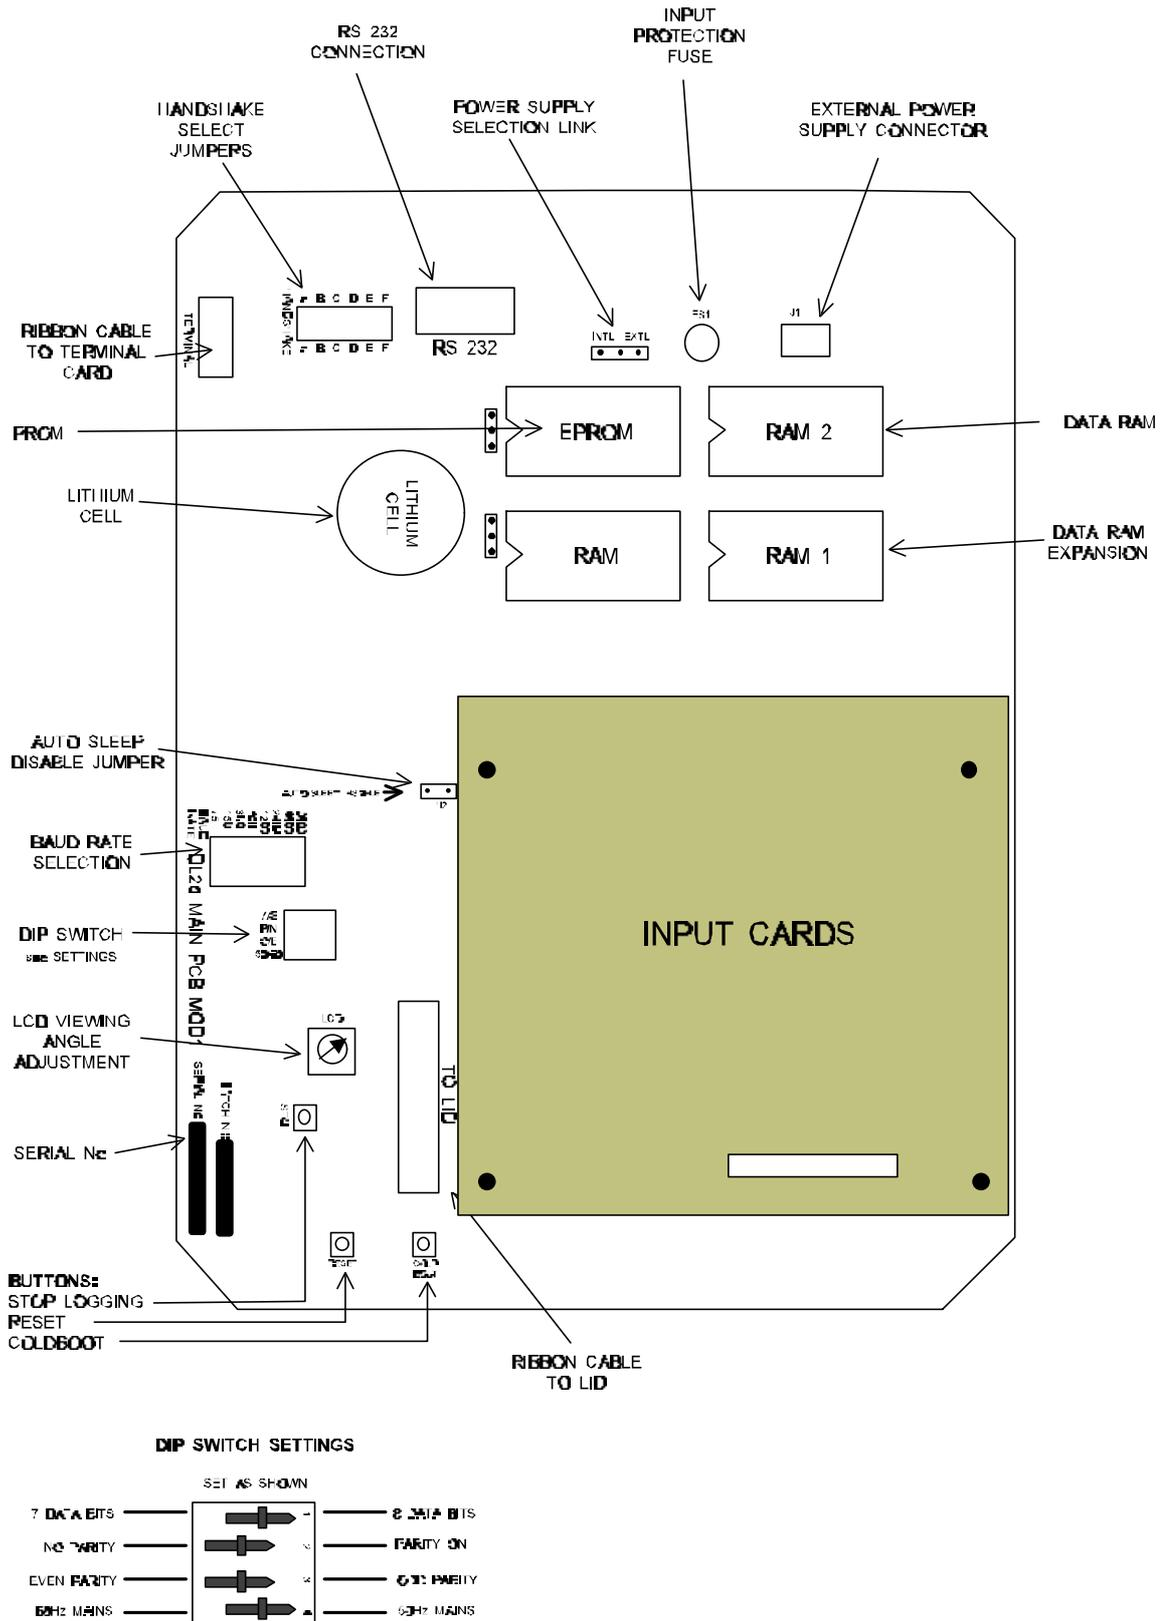

Figure 3 - Main circuit board
- **Memory IC sockets:** Sockets containing memory chips where logged data is stored. In Figure 3 on page 11 these are labelled DATA RAM and DATA RAM expansion. See also "Installing ICs" in Chapter 4: DL2e Hardware in the DL2e Hardware Reference.
Switches 1-3 determine the logger's communication parameters, along with the BAUD RATE switch. For the Tutorial, they should be set to 8 data bits, no parity, as illustrated in Figure 3 - Main circuit board.